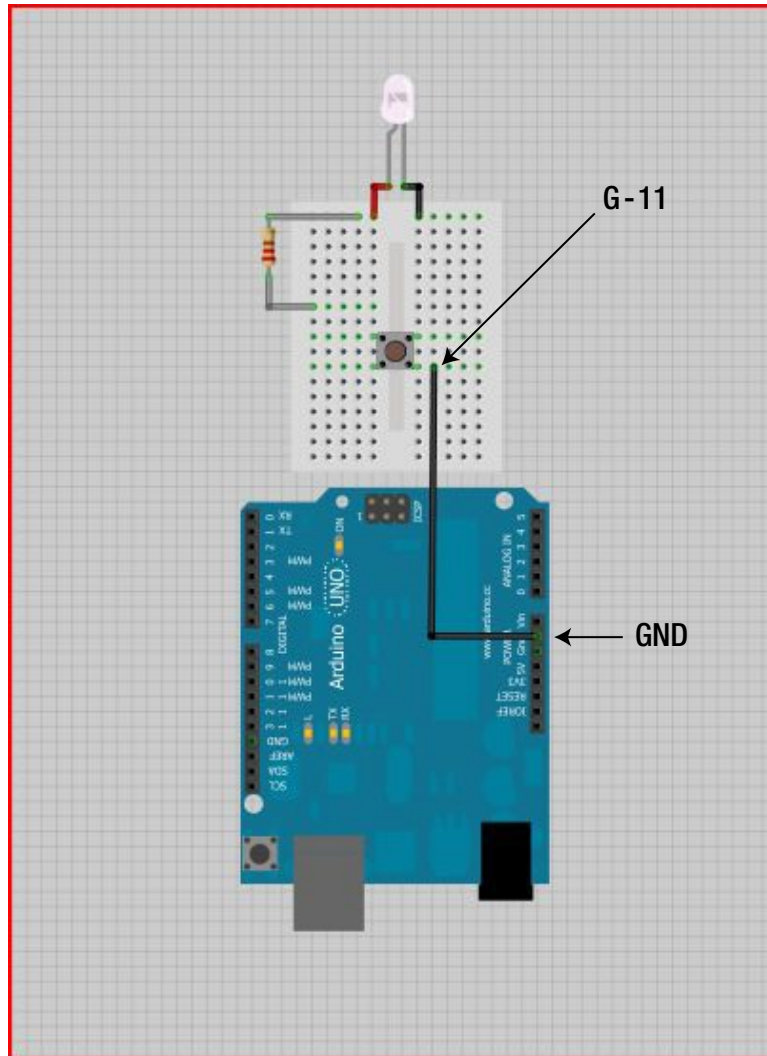

Figure 7-8. Attach the ground wire from the Arduino to the push button
5. Attach a black wire from ground (GND) on the Arduino to G-11; this will connect ground to one side of the push button, as shown in Figure 7-8.